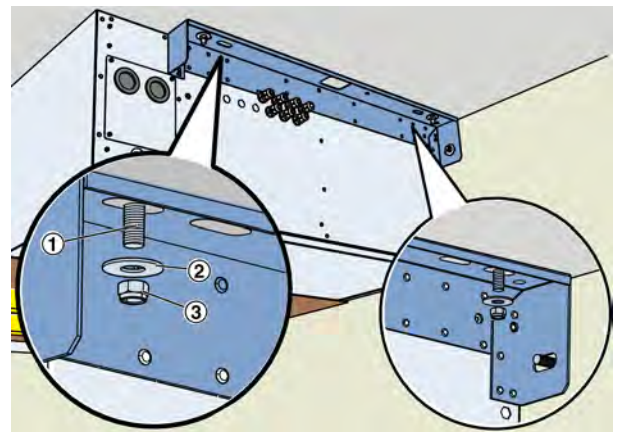
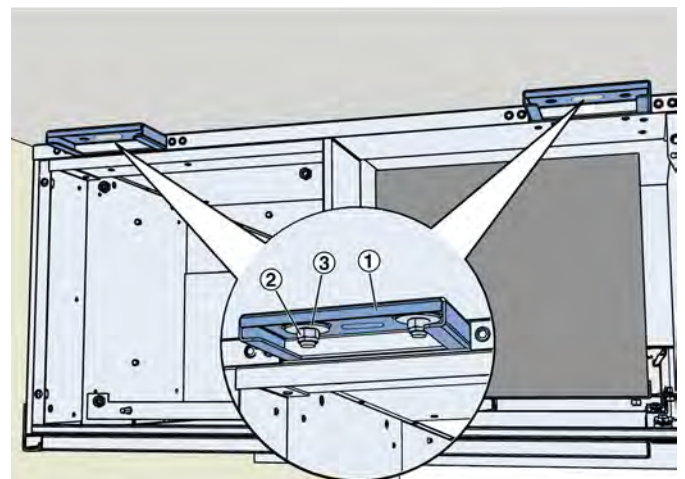

Fig. 13: Fixing outside component 1
Fig. 14: 4 fixtures on the two lugs on device component 1
Required fixing points for component 1 (Fig. 13 and Fig. 14)
- 5. ▶ Fasten the unit to the ceiling threaded rods (Fig. 13 /1) with body washers (Fig. 13 /2) and self-locking nuts (Fig. 13 /3) so that it can still be moved slightly.
The threaded rods must not protrude beyond the lugs (Fig. 14 /1) otherwise they will collide with component 2. Otherwise, shorten the threaded rods before the assembly of device component 2.
Important: The screw connections of the lugs (Fig. 14) are no longer accessible after the assembly of device component 2.